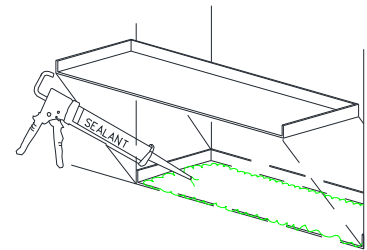

Figure 16:
- Secure the sillpan to the floor with glue. Position sillpan as necessary to allow for proper installation of frame assembly (Figure 16).